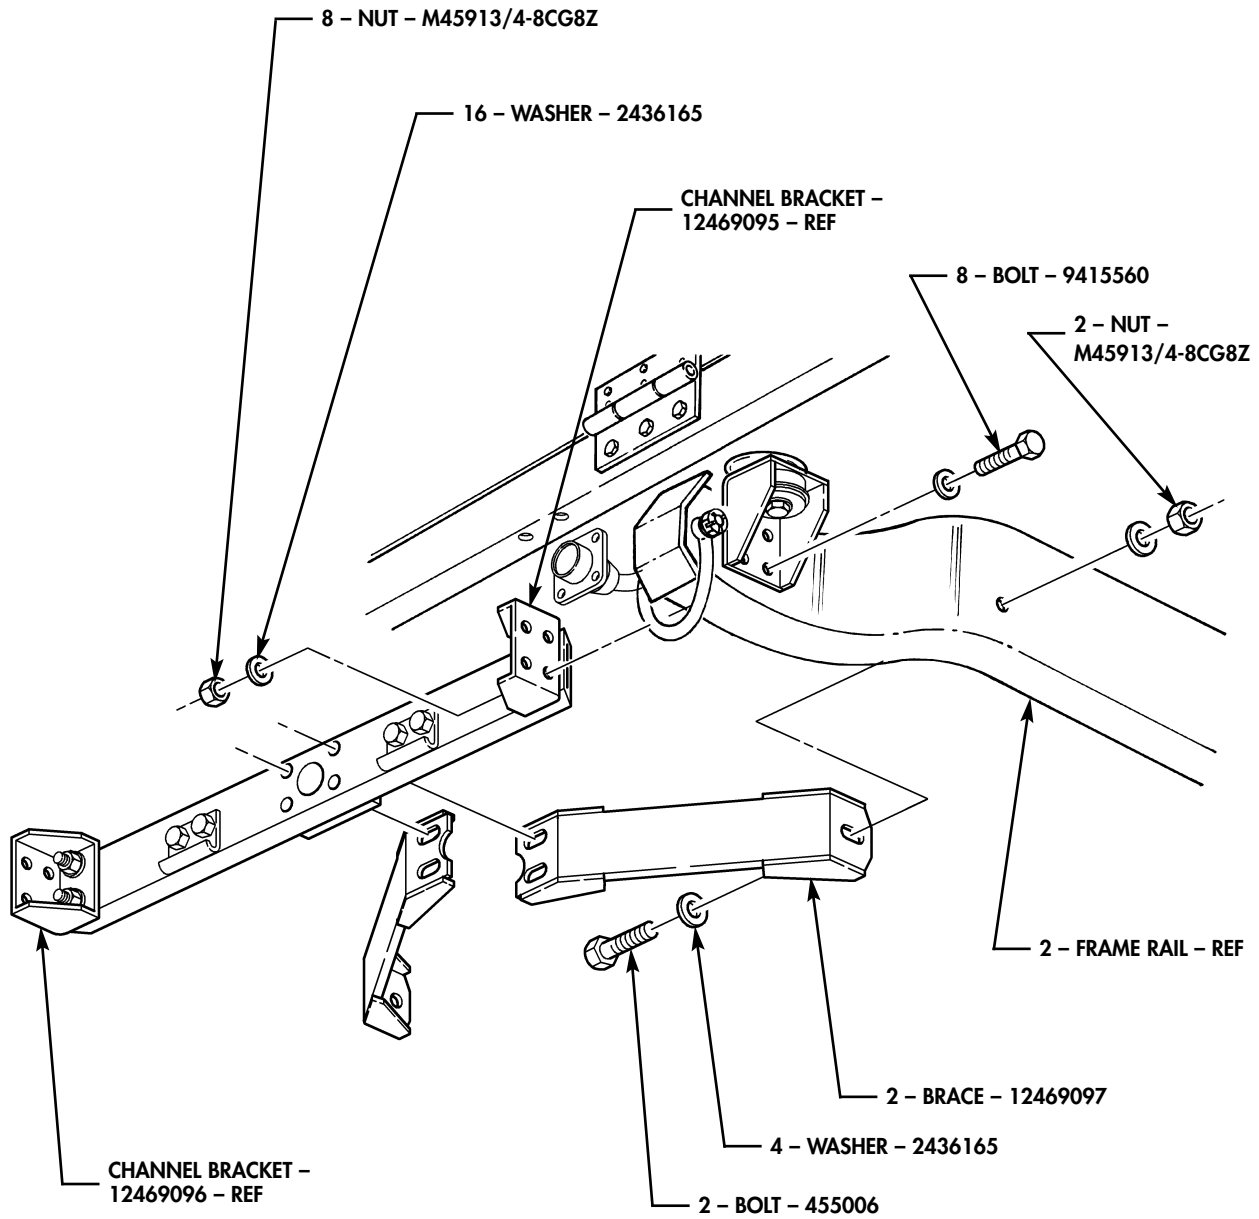

FIGURE 7
- (4) Install channel brackets 12469096 and 12469095 on left and right frame rails with eight 9415560 bolts, sixteen 2436165 washers, and eight M45913/4-8CG8Z nuts as shown in figure 7.
- (5) Install two 12469097 braces on left and right frame rails with two 455006 bolts, four 2436165 washers, and two M45913/4-8CG8Z nuts as shown in figure 7. Do not tighten nuts.
- (11) Ensure both braces are on frame rails and channel and tighten nuts installed in steps 4 and 6 as shown in figures 7 and 9.